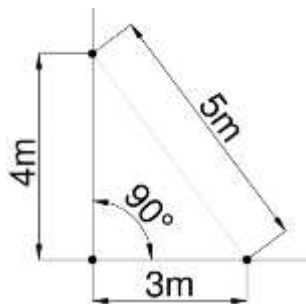

Figure 8: Golden triangle
3. Determine the corners according to the figures below and use the golden triangle (Figure 8) to create 90° between the sides of the structure.